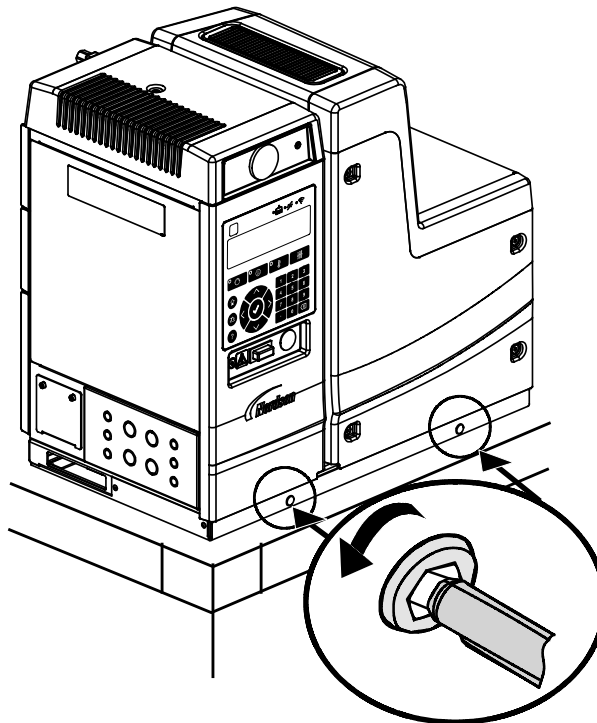

Figure 3-6 Removing melter from the sub-base
1. See Figure 3-6. Remove the melter from the sub-base plate by loosening the two M8 socket head cap screws on the front of the chassis using an M6 hex wrench.